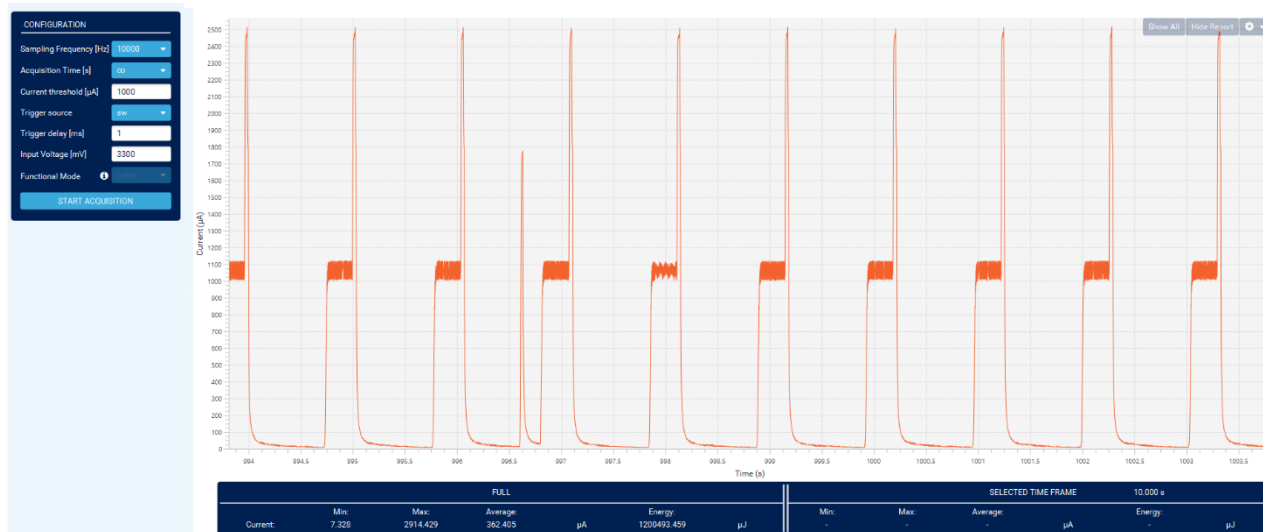

Figure 14 : Real time consumption sending “send data” query every 30 second. Average consumption is 362 µA
- With “send data” query every 30 second (figure 14).